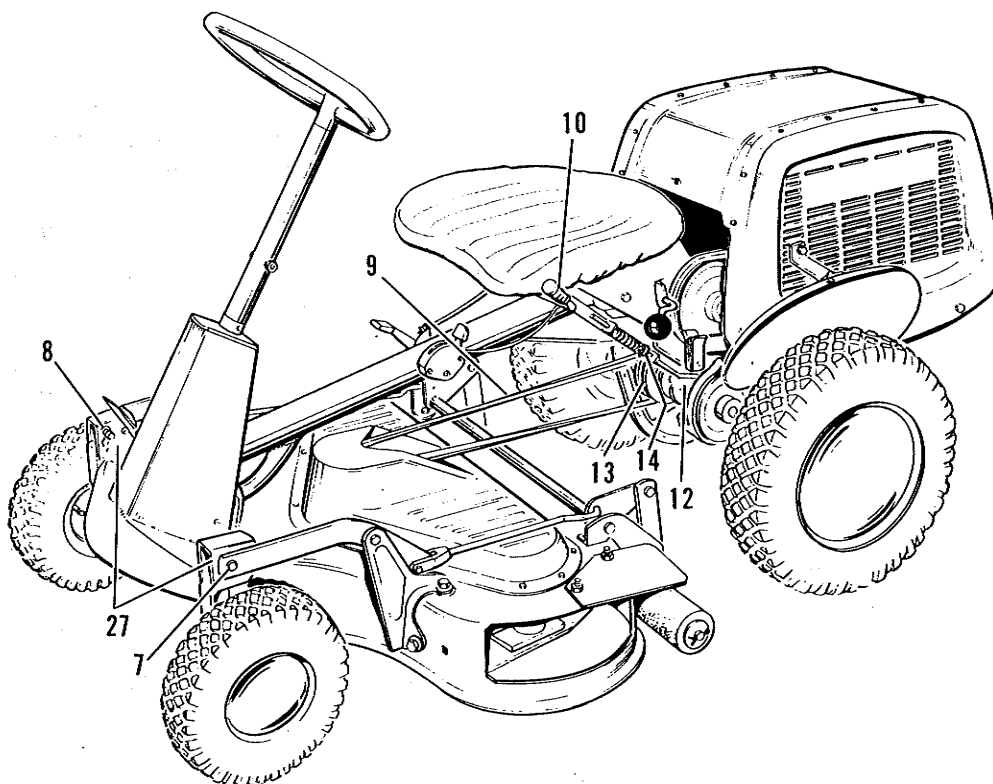
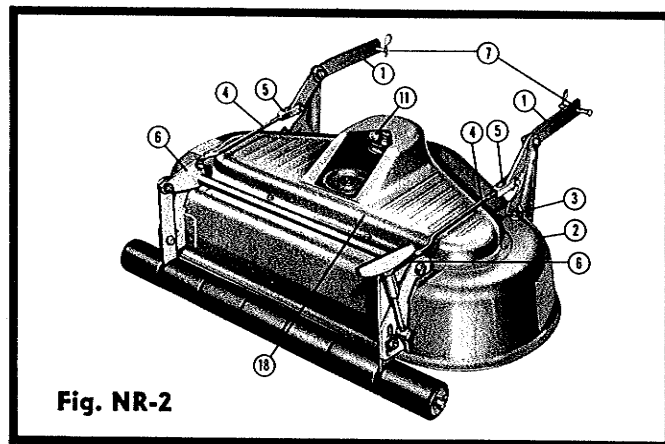
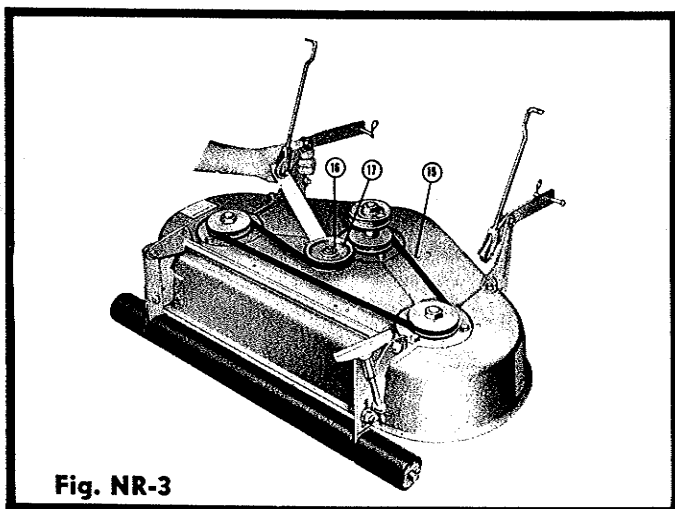

Fig. NR-1
Fig. NR-2
Fig. NR-3
Fig. NR-2 shows the 32" mower assembled and ready for attachment to the Wonder-Boy 600 Rider. In Fig. NR-1, the mower is shown in operating position on the Rider. Refer to both figures when following the assembly and attachment instructions.
1. Fasten the front hitch arm assemblies (1, Fig. NR-2) to the mower housing (2, Fig. NR-2) with the carriage bolts (3, Fig. NR-2) provided. Be sure to insert bolts from inside of housing so they will properly fit into the square holes provided. The bolts are then secured with lockwashers and nuts on the outside of the housing.
2. The height adjusting rods (4, Fig. NR-2) should be positioned in clevises (5, Fig. NR-2) so that approximately four threads protrude on the inside of the clevis. Then insert rod ends in the holes provided in rear lever assembly (6, Fig. NR-2). Place cotter pin in end of adjusting rod, but do not bend cotter pin to fasten until final leveling check is made when mower is attached to Wonder-Boy Rider.
3. The mower is now ready for attachment to the power unit. Secure the hitch arms (1, Fig. NR-2) to the front axle assembly (27, Fig. NR-1) by means of the pins (7, Fig. NR-2) placed in the front holes in the axle assembly, with the pin head to the outside. The pins are then secured with spring clips (8, Fig. NR-1).
4. Before attaching the cross-drive belt (9, Fig. NR-1), make sure that the mower clutch lever (10, Fig. NR-1) is in the rear position so that the idler pulley is disengaged. Place belt (9, Fig. NR-1) on pulley (11, Fig. NR-2) and at the same time pull forward on spring loaded power take-off shaft (12, Fig. NR-1). While shaft (12, Fig. NR-1) is held forward, twist belt one-quarter turn as shown and place on large pulley (13, Fig. NR-1). The small pulley is used for 30" Reel and 24" Rotary Mowers only. **BE SURE THAT THE SIDE OF THE BELT NEAREST THE ARROW ON THE HOUSING RUNS UNDER THE BOTTOM OF PULLEY (13, Fig. NR-1). THE MOWER BLADES MUST TURN IN THE COUNTER-CLOCKWISE DIRECTION WHEN VIEWED FROM THE TOP OF THE MOWER.**
5. Move the mower clutch lever (10, Fig. NR-1) to the forward position and check the tension on drive belt (9, Fig. NR-1). The set collar (14, Fig. NR-1) should be positioned so that its spring is compressed $\frac{1}{2}$ " to $\frac{3}{8}$ " when the clutch is engaged. If the belt is too tight, the mower hitch arms (1, Fig. NR-2) may be moved to the rear set of holes in the front axle assembly (27, Fig. NR-1).
NOTE: After the first 5 to 10 hours of operation the cross-drive belt (9, Fig. NR-1) and the blade drive belt (15, Fig. NR-3) may stretch slightly. If necessary, the tension on belt (9, Fig. NR-1) may be readjusted by repositioning set collar (14, Fig. NR-1). The tension on blade drive belt (15) may be increased as illustrated in Fig. NR-3. First remove four screws and two nuts around housing cover (18, Fig. NR-2) and remove it from mower. Loosen nut (16, Fig. NR-3), then apply pressure to move idler pulley (17, Fig. NR-3) in the direction indicated, until enough belt tension is obtained. Then hold pulley in desired position and retighten nut (16, Fig. NR-3). Replace housing cover (18, Fig. NR-2) and refasten with screws and nuts.
The cross drive belt (9, Fig. NR-1) and the blade drive belt (15, Fig. NR-3) are a super combine type which are specially constructed to insure proper mower operation and long life. When replacements are needed, do not substitute standard fractional horsepower belts. Use Simplicity No. 108175 cross drive belt and No. 108151 blade drive belt.
6. For a final check on mower alignment, place the Wonder-Boy 600 and attached mower on a hard flat surface and set the mower at its lowest position by operating the adjusting screw handle (19, Fig. NR-2)
in the counter-clockwise direction. For best operation, the front of the mower should be approximately $\frac{3}{8}$ " higher than the rear. It may be necessary to vary the position of the clevises on the adjusting rods (4, Fig. NR-2) to obtain this adjustment.
7. To operate the mower, push the mower clutch control (10, Fig. NR-1) forward to engage the mower drive with the power take-off assembly. To disengage mower, pull the clutch control back. Be sure the mower clutch is disengaged before starting engine.
The height of cut adjustment on the 32" Rotary Mower is provided in a single control (19, Fig. NR-2). Through the linkage with the front mower supports, the mower is kept level at any height selected by operating the adjusting screw control.